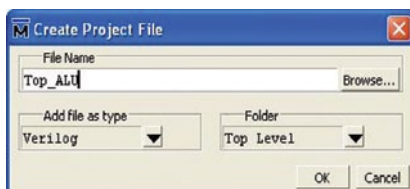

Fig. 5: Create Project File window
5. A Create Project File window pops up. Select an appropriate file name (say, Top_ALU) for the file you want to add; choose Verilog as Add file as type and Top Level as Folder (Fig. 5).